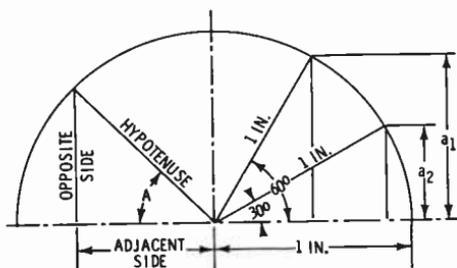

Fig. 14. Diagram illustrating the sine of an angle.
Since the generation of an alternating current or potential is always represented by means of a sine curve, certain factors concerning its construction will be considered; and although the sine of an angle is a trigonometric figure, it may be represented by the aid of one or more right-angle triangles as shown in Fig. 14.
By definition, the sine of an angle, such as (A) in Fig. 14, is equal to the opposite side of the triangle divided by the hypotenuse. This may be written:
It may easily be proved with the aid of simple mathematical relations that the sine values for angles such as 30°, 45° and 60° are ½, ½√2, and ½√3, respectively. Approximate sine values for various angles may easily be obtained from triangles inscribed in a circle of unity length radius as illustrated in Fig. 14. Thus, if